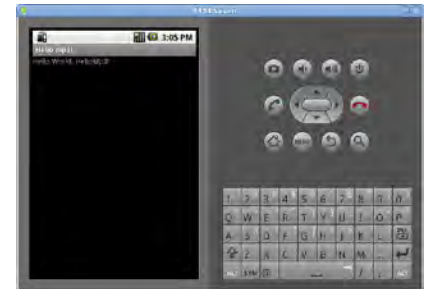

Figure 6-24. HelloMp3 playing the MP3 file
- ❸ The `Sound` object's method `start()` plays the sound.
- ❹ This line establishes a full-screen view (see Figure 6-24) that is defined in an XML file, `res/layout/main.xml` (this file was generated when you created the project). You won't use this in later projects (you'll just create user interfaces with code).